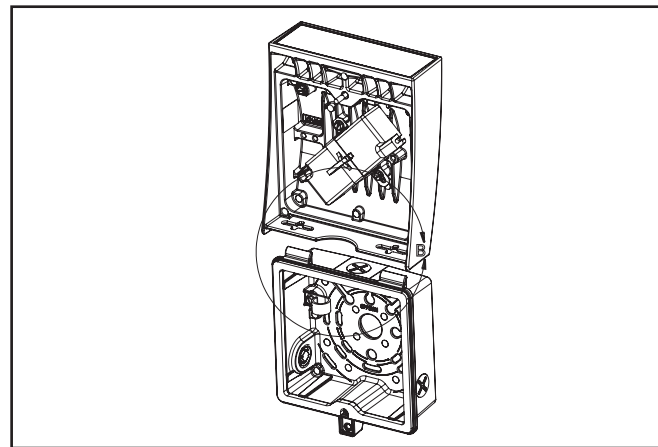
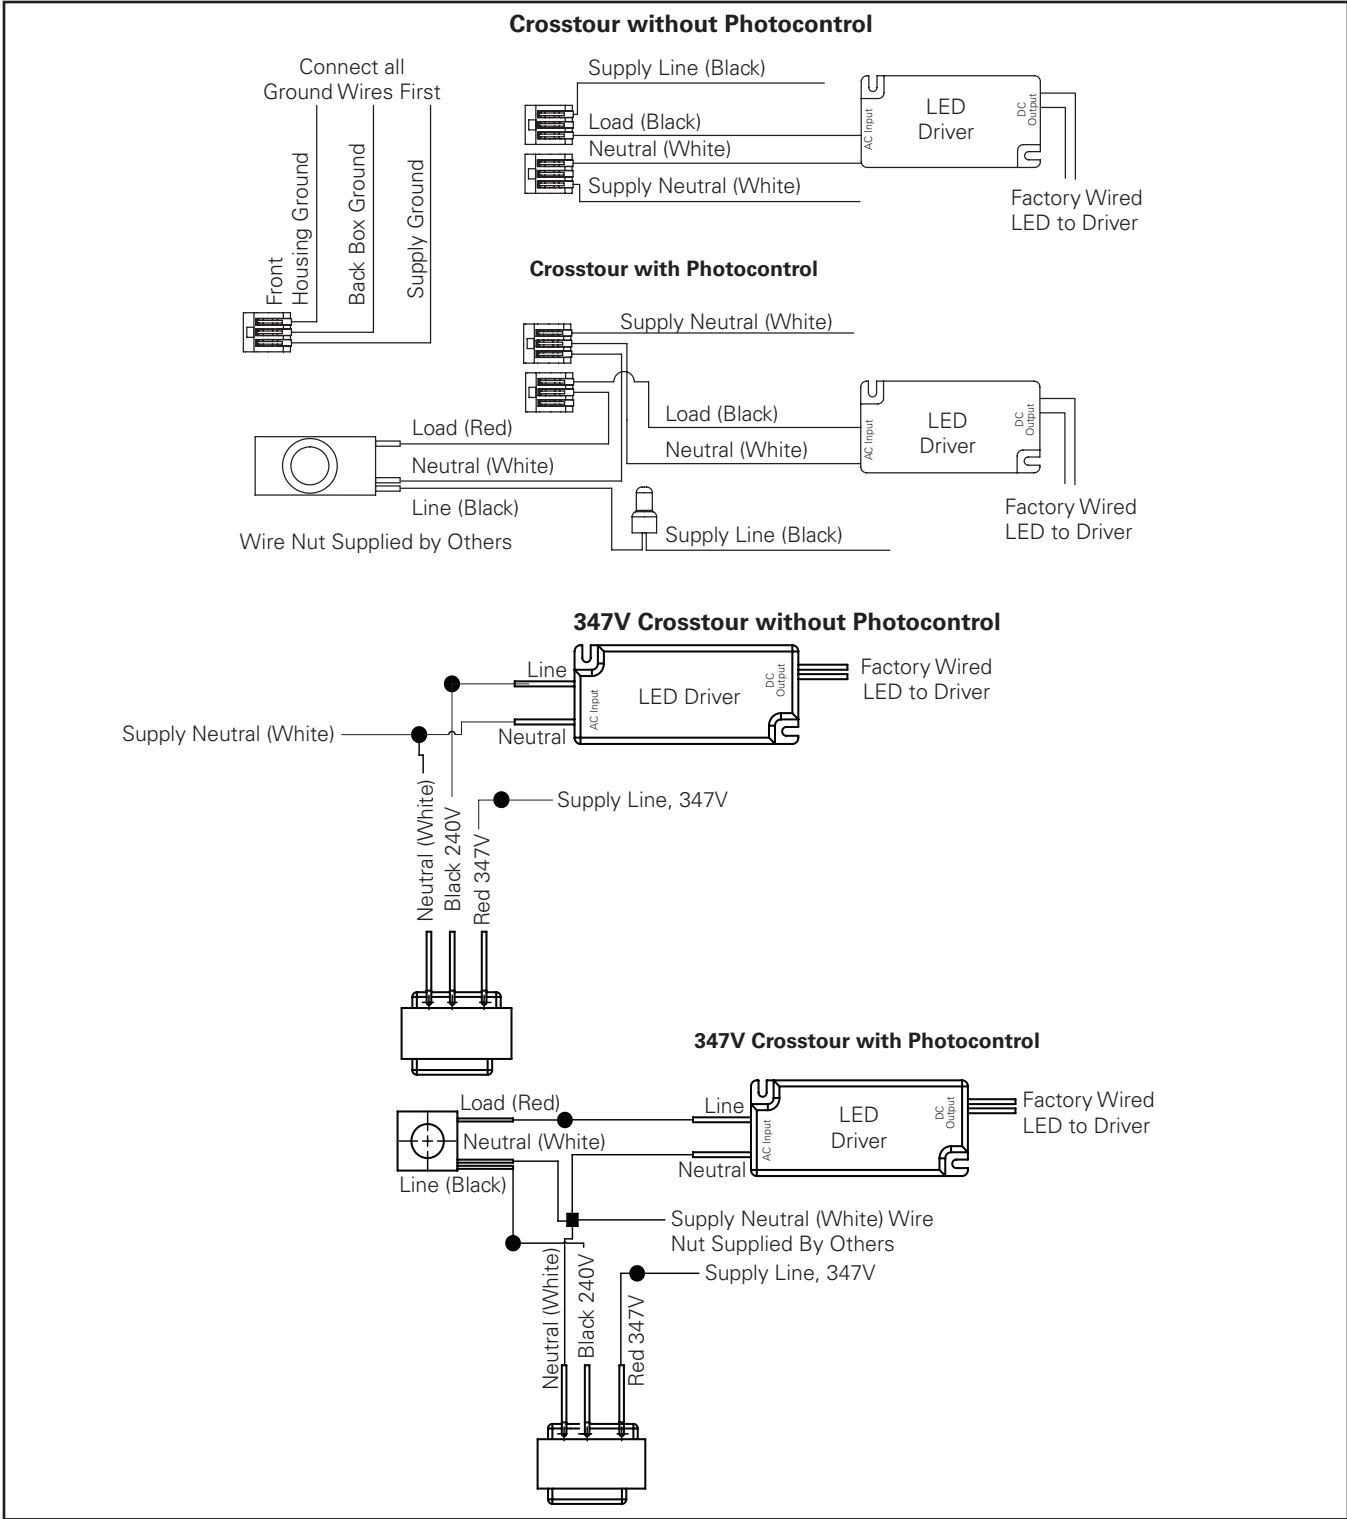
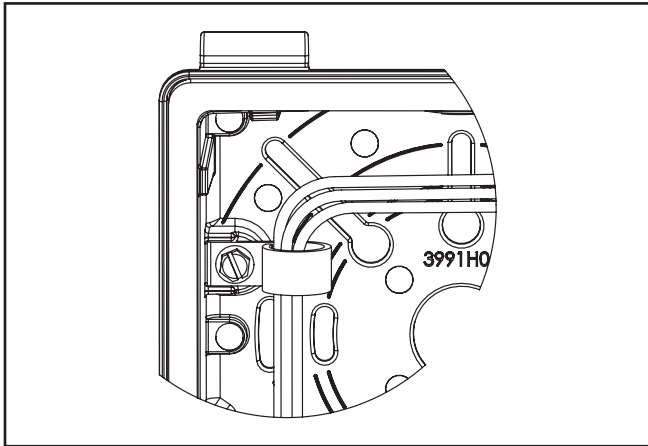

Figure 2.
Figure 3.
Figure 4.
2. Secure door in lock hinges located at the top of the back box (for down light illumination) (Figure 2). Utilize lever-lock connectors to make electrical connections (Figure 3). All electrical connections must remain inside back box. Secure any loose wires to harness (Figure 4) prior to closing and securing door. Tighten door screw to seal fixture. (10-15 in-lbs.)
Note: For conduit applications, remove only the required 1/2" NPT conduit plug(s) prior to installing back box to surface. Apply sealing compound or teflon tape to liquid-tight conduit fitting (supplied by others) entering back box to create water tight seal. Make electrical connections (Figure 3 and Figure 4).